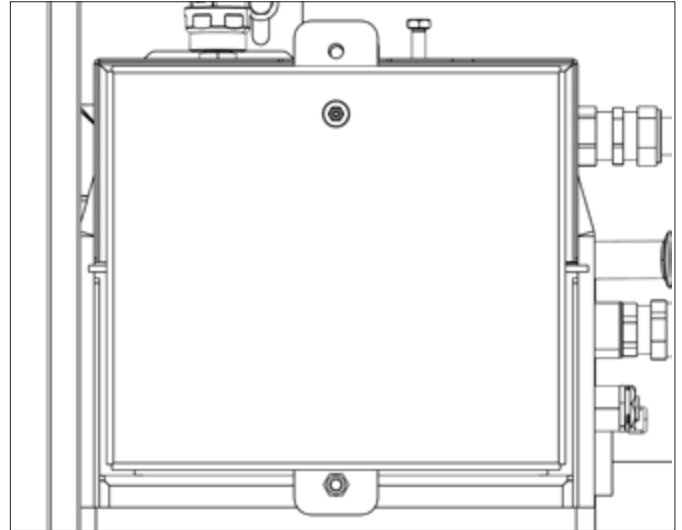

**Figure 4-2:** Expansion vessel, Expansion vessel bracket and hose connection - System model only
9. System model only - unscrew expansion vessel hose from connection on boiler shell and remove expansion vessel from boiler. (See Figure 4-2)